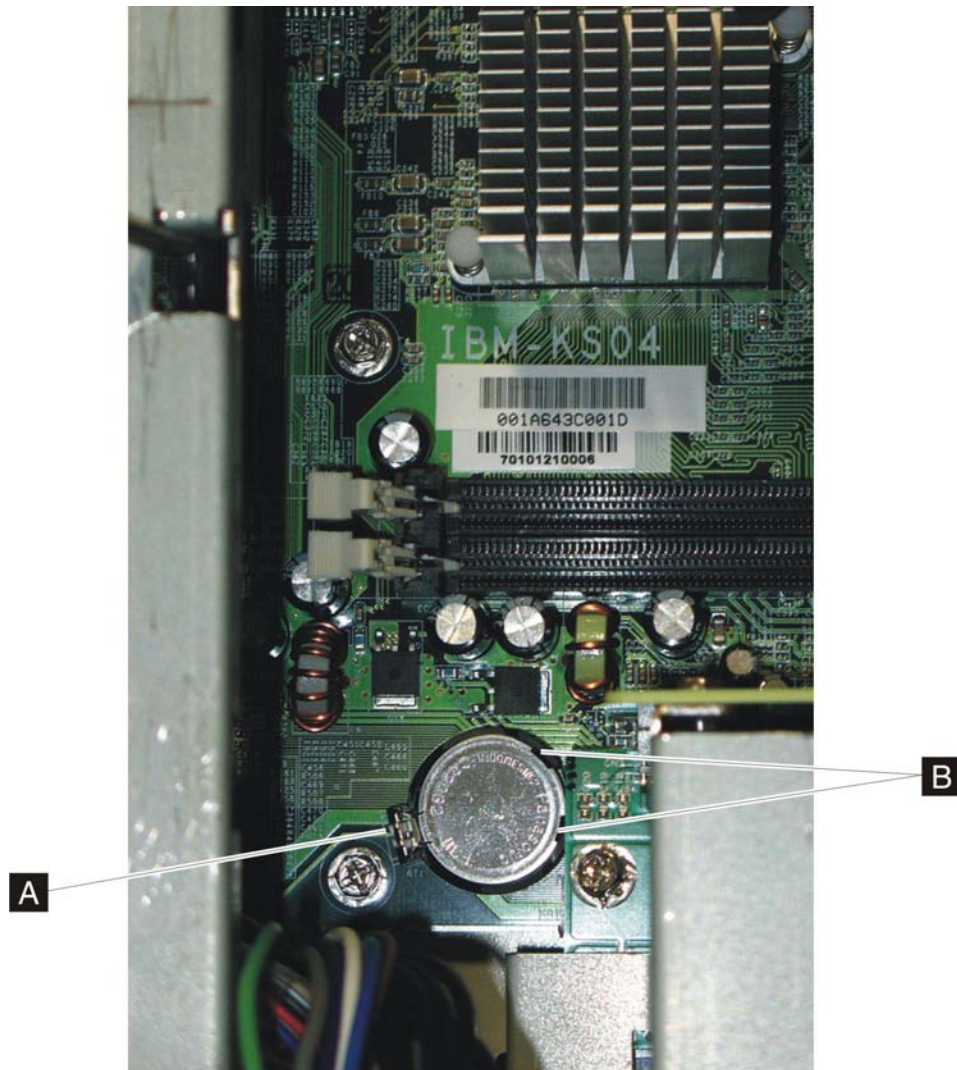

Figure 36. Removing the system board battery
2. Carefully press down on the battery release button ( **A** in Figure 36 on page 48, toward the front of the system board). The battery will lever up out of the socket.